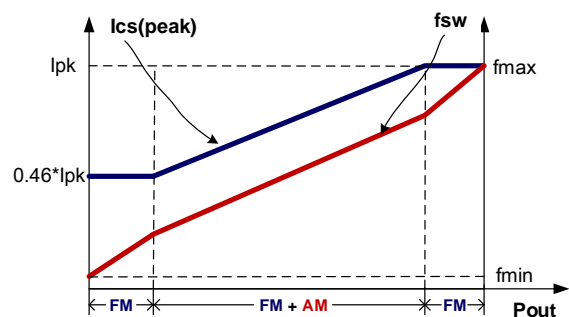

Fig 4
To meet the tight requirement of averaged system efficiency and no-load power consumption, a hybrid of frequency modulation (FM) and amplitude modulation (AM) is adopted in KP2313X which is shown in the Fig 4.